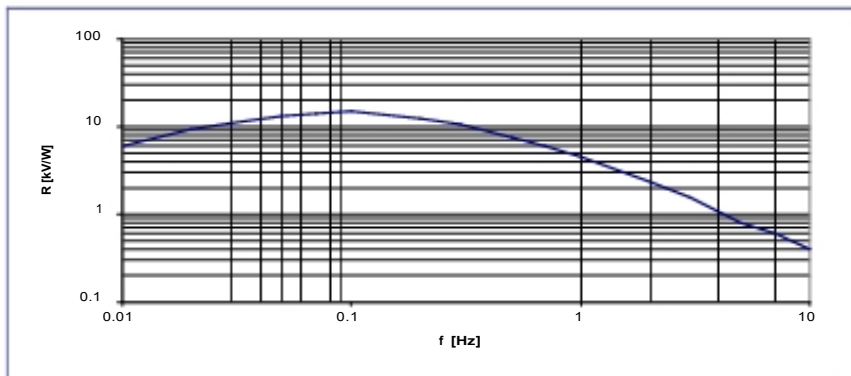

Fig.5: Frequency response
- 1) Responsivity is measured within spectral range 7 - 14 µm as per fig. 5 at 1Hz.